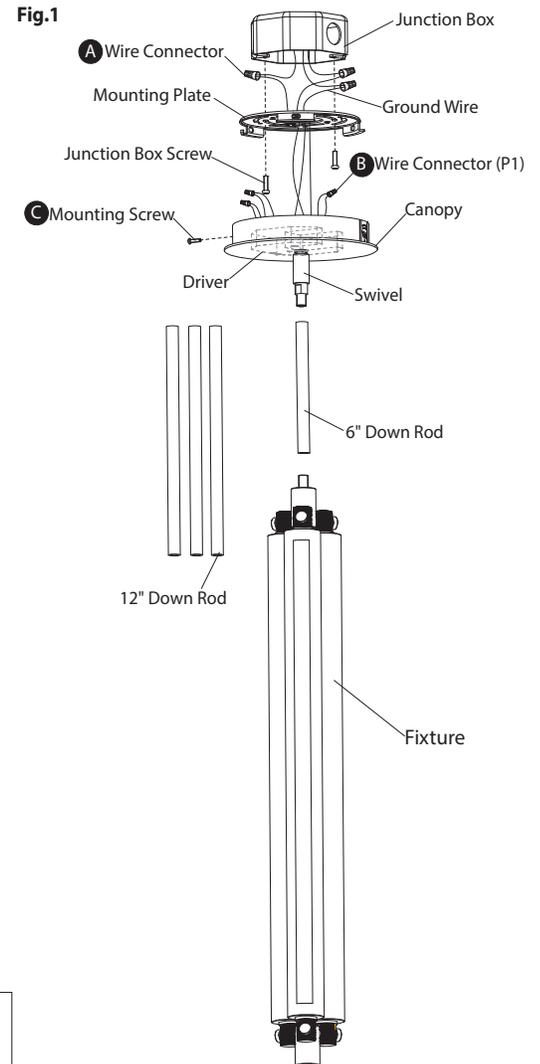

Fig.2
WIRING FIXTURE (Fig.2, Fig.3)
8. Connect the driver's input/output wires to junction box wires as shown in Fig.2/ Fig.3.